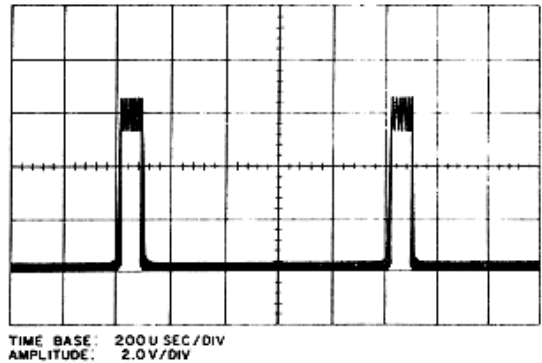

Figure 6.21 – Q19, Emitter Waveform
o. Remain in CW mode and reconnect oscilloscope to emitter of keyed oscillator Q19 (or left end of R57). The observed 1 kHz waveform should resemble the one shown in figure 6.21.